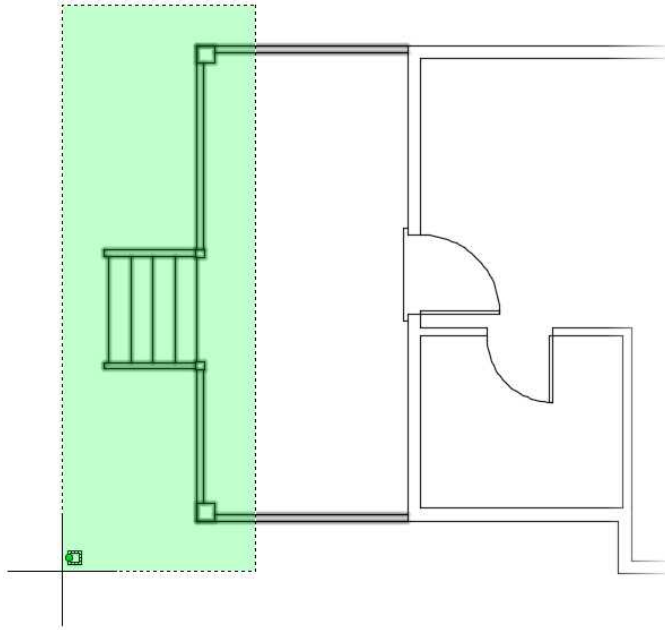

FIGURE 5.30: Selecting the deck components for the STRETCH command
4. At the **Select objects:** prompt, place the cursor above the deck and to the right of the stairs, but be sure the point is to the left of the threshold (see Figure 5.30).
5. At the **Specify opposite corner:** prompt, click a point outside and to the left of the deck, as shown in Figure 5.30. The deck objects glow to indicate that they are selected. Press **↵** to discontinue selecting objects.